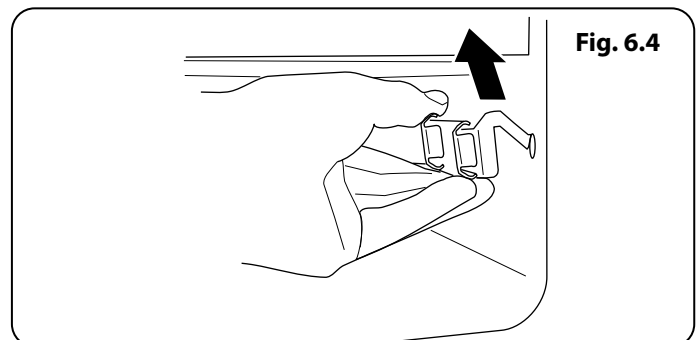

Fig. 6.4
3. If you need to remove the telescopic runners to allow cleaning of the broiler chamber, first remove the broiler tray then you can unhook them from the broiler chamber sides (**Fig. 6.4**).